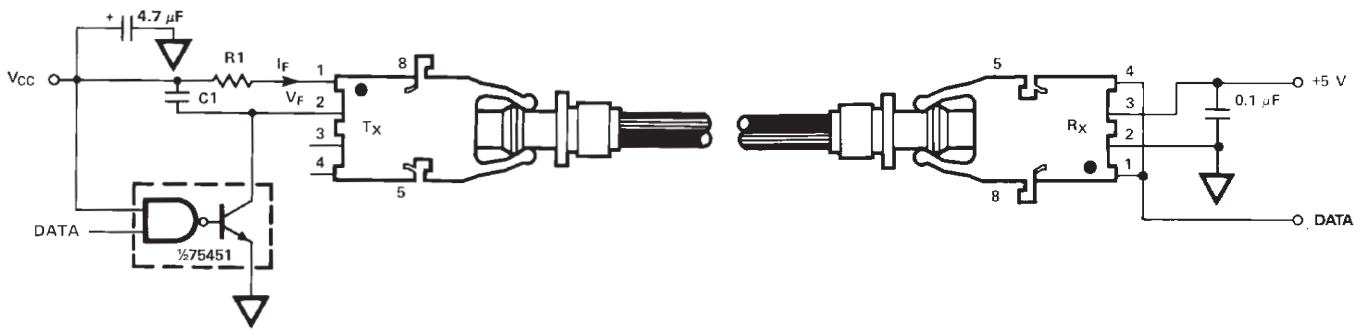

Figure 11. Required 1 MbD interface circuit
The HFBR-25X2Z receiver cannot be overdriven when using the required interface circuit shown in Figure 11
- The LED drive circuit of Figure 11 is required for 1 MBd operation of the HFBR-25X2Z/25X4Z.